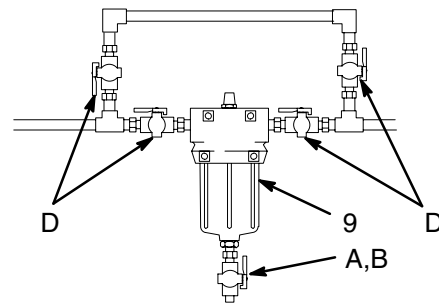

Fig. 2
Install the filter and bypass pipes as shown in Fig. 2. Install four suitable shutoff valves (D), one each at the filter inlet, the filter outlet, the bypass pipe inlet, and the bypass pipe outlet. These valves redirect the fluid and isolate the filter while cleaning and servicing.